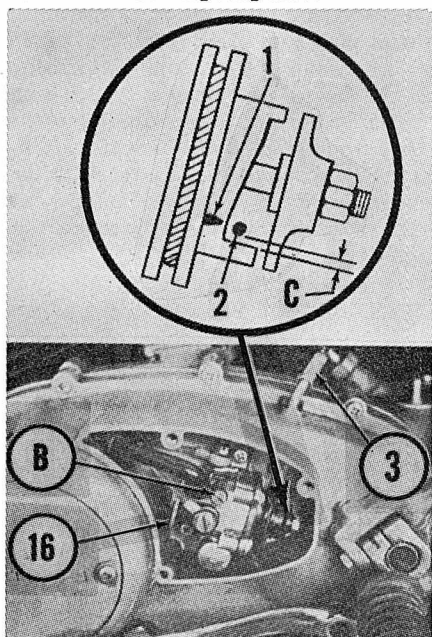

**Fig. Y5-1—Exploded view of Mikuni VM carburetor. Starting valves for both carburetors are connected with rod (12).**
**CARBURETORS.** Two Mikuni VM carburetors are used. Idle speed should be set at approximately 1,200 RPM by turning adjusters (2—Fig. Y5-1). Make sure that throttle slides (7) both stop at exactly the same position and exhaust pressure is the same for both cylinders. Idle mixture is changed by turning needles (11). Initial setting is 1½ turns open. Turning the needle counter-clockwise leans
Float level (H—Fig. Y5-2) should be 1 inch (25.5MM) and is adjusted by bending tang (17) on float. Refer to Fig. Y5-1 and the following standard specifications:
Before adjusting the pump control cable, it is important that the throttle cable guides (1—Fig. Y5-1) are correctly set. To adjust the throttle cable guides, turn the idle speed adjusters (2) all the way down, then synchronize cable guides (1) so that both throttle slides (7) begin to move at exactly the same time when the hand grip is turned. The throttle cables should have approximately  $\frac{1}{16}$ -inch free play after they are synchronized. Adjust the idle speed to 1,100-1,300 RPM by turning both idle adjusters (2). Make certain that both throttle slides stop at exactly the same time. Turn the throttle hand grip just enough to take up free play from the throttle cables (without changing idle speed) and check the oil pump setting mark and guide pin as shown in Fig. Y5-5. If the "V" mark (1) is not exactly aligned with guide pin (2);